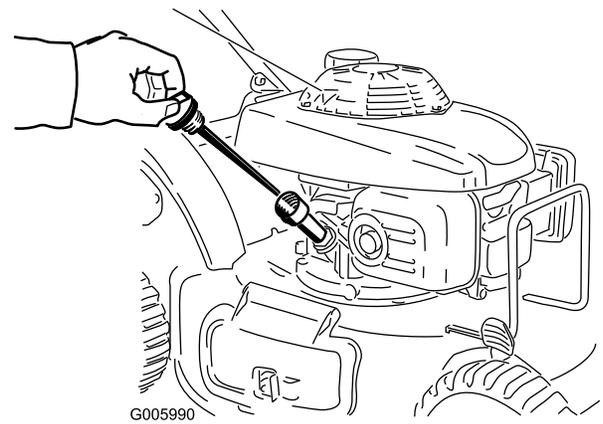

Figure 35
2. Remove the dipstick (Figure 35).
4. **Slowly** pour oil into the oil fill tube, periodically checking the level with the dipstick, until the dipstick indicates that the engine is full as illustrated in Figure 35. **Do not overfill.** (Max. fill: 20 oz. (0.55 l), type: SAE 30W detergent oil with an API service classification of SH, SJ, SL, or higher.)